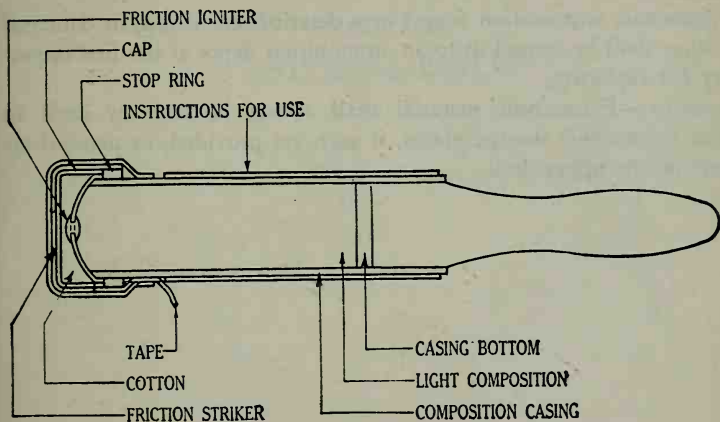

FIG. 52-5—Signal lights.
*Signal lights* are put up in short tubes with wooden handles for use from the hand (Fig. 52-5).